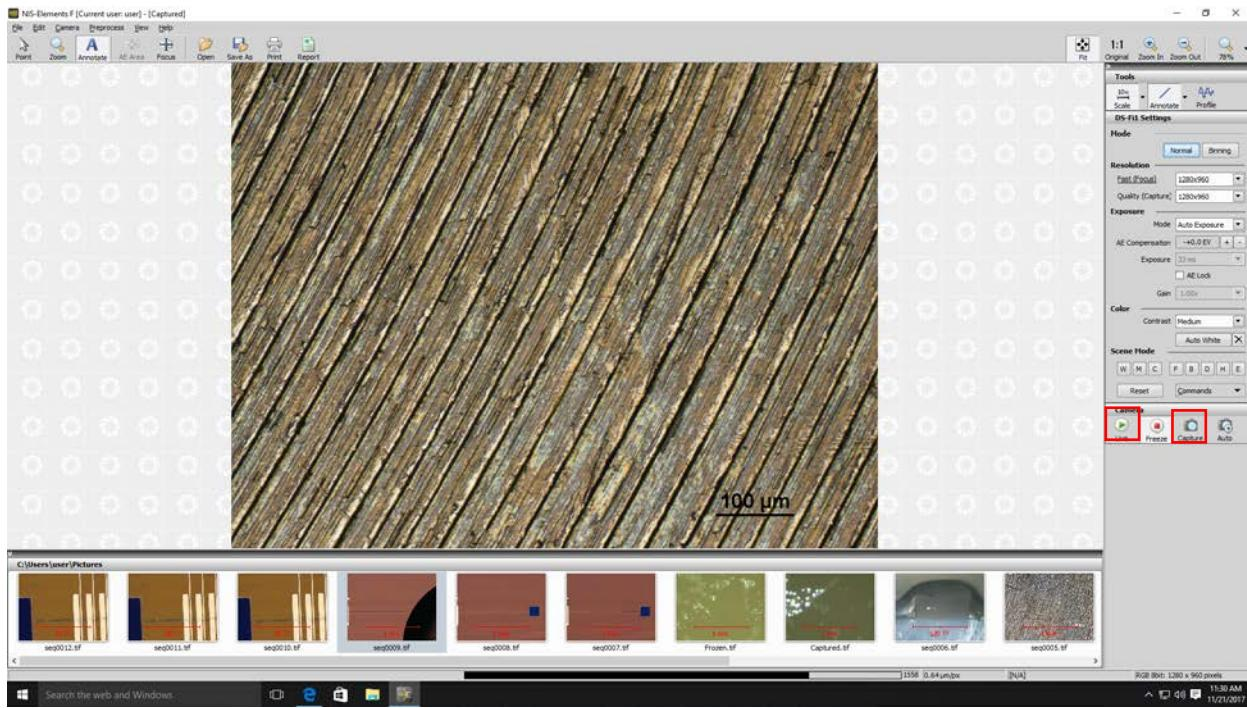

Figure 8. The camera software interface.
- 5) Start camera software ‘NIS\_Elements’ on desktop. Make sure the ‘Live’ mode is selected (Figure 8). Adjust the focus slightly to obtain the best image on the screen.
- 6) To add a scale bar on the image, press the button ‘Scale’ in the up right corner (Figure 8). It’s important to **match the magnification on the scale bar with the lens in use**.
- 7) The resolution (in the unit of pixel) and exposure time can be adjusted on the right of the screen. Figure 8 shows the default and suggested settings.
- 8) Press ‘Capture’ (Figure 8) to capture the image.